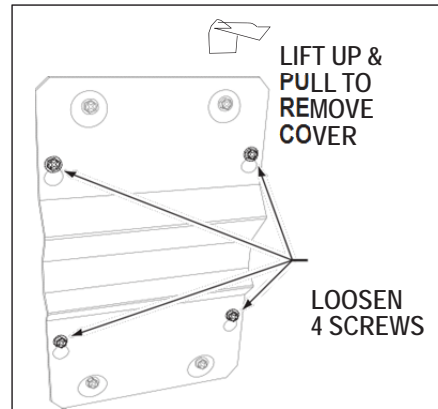

Figure 2. Remove Cover
Go to the back of the host cabinet and loosen the four (4) screws holding the umbilical cover. Remove the umbilical cover. See Figure 2.